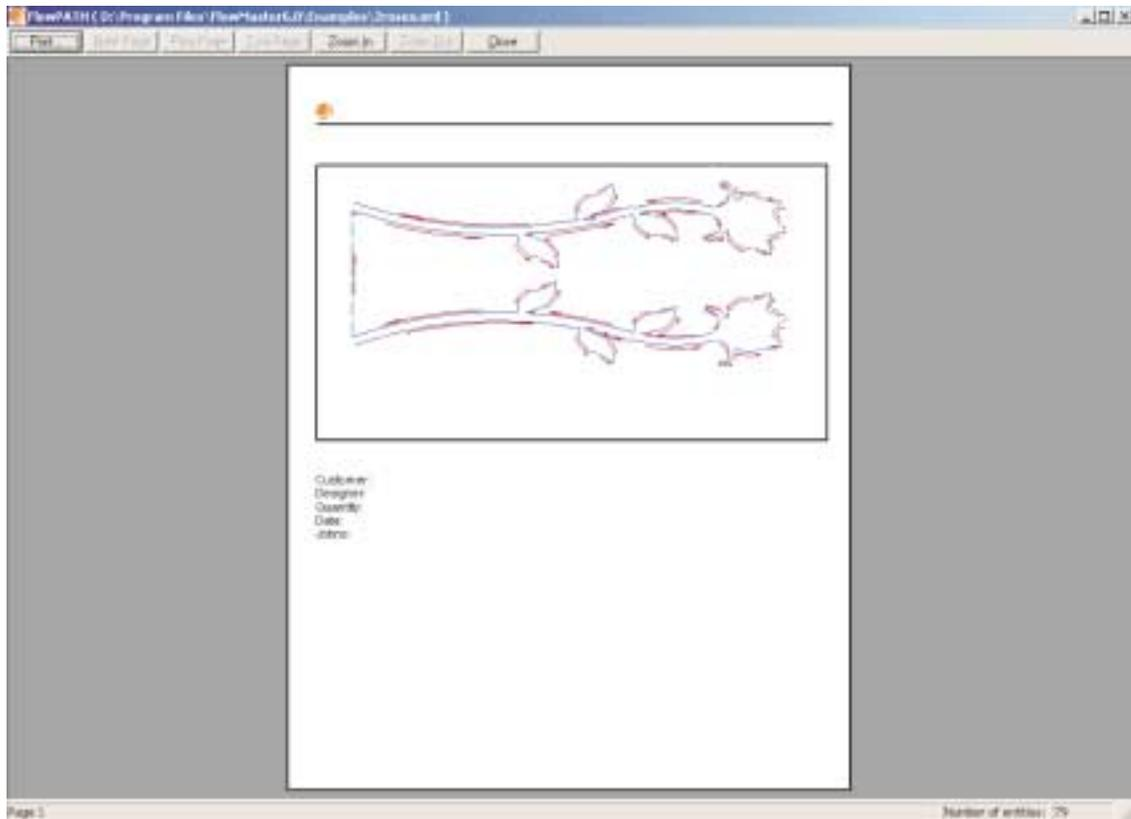

Figure 20. Print preview
7. Select **File | Print Preview** on the menu bar. A preview of your printed page is displayed (Figure 20).